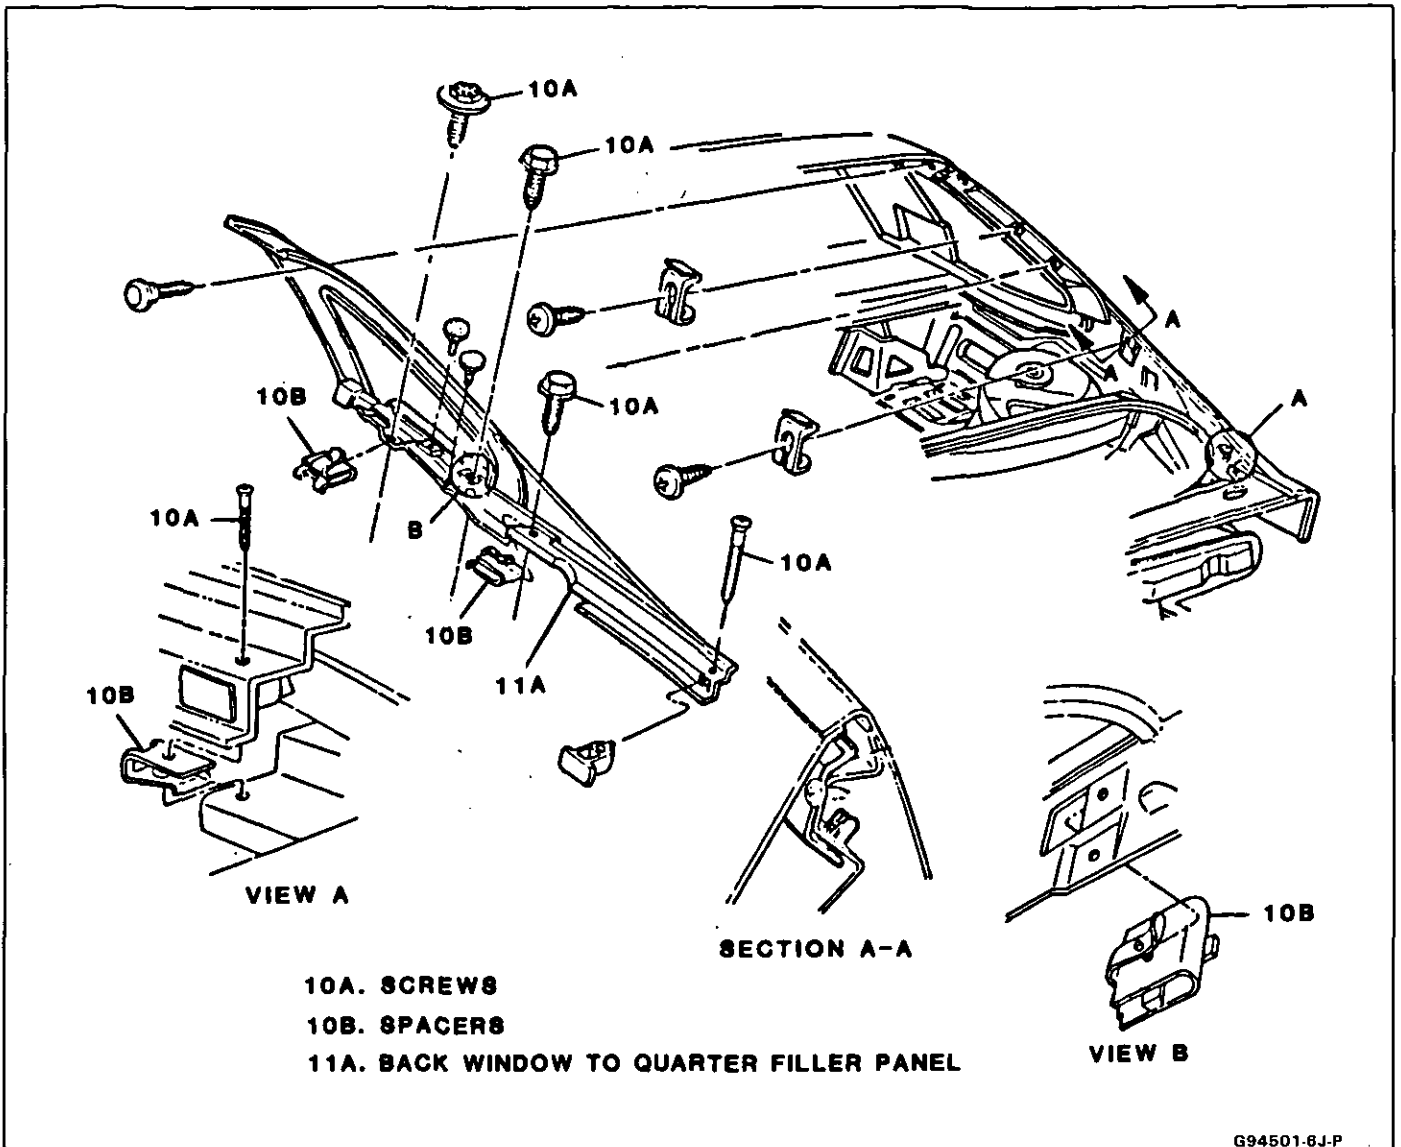

Fig. 6 - Installing Back Window to Quarter Filler Panel - 97 Style
2. Lower screws (9)
3. Upper screws (8)
**↔ Remove or Disconnect (Fig. 6)**